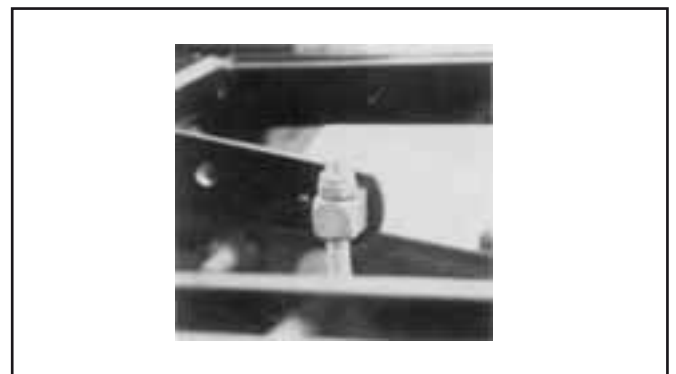

Fig. 28
To adjust the height of cut rotate the nyloc nut (A) situated under the centre of machine on the rear cutterhead support assembly. Adjust the nyloc nut to obtain low cut at front of blade circle of 15mm. *Fig. 28*